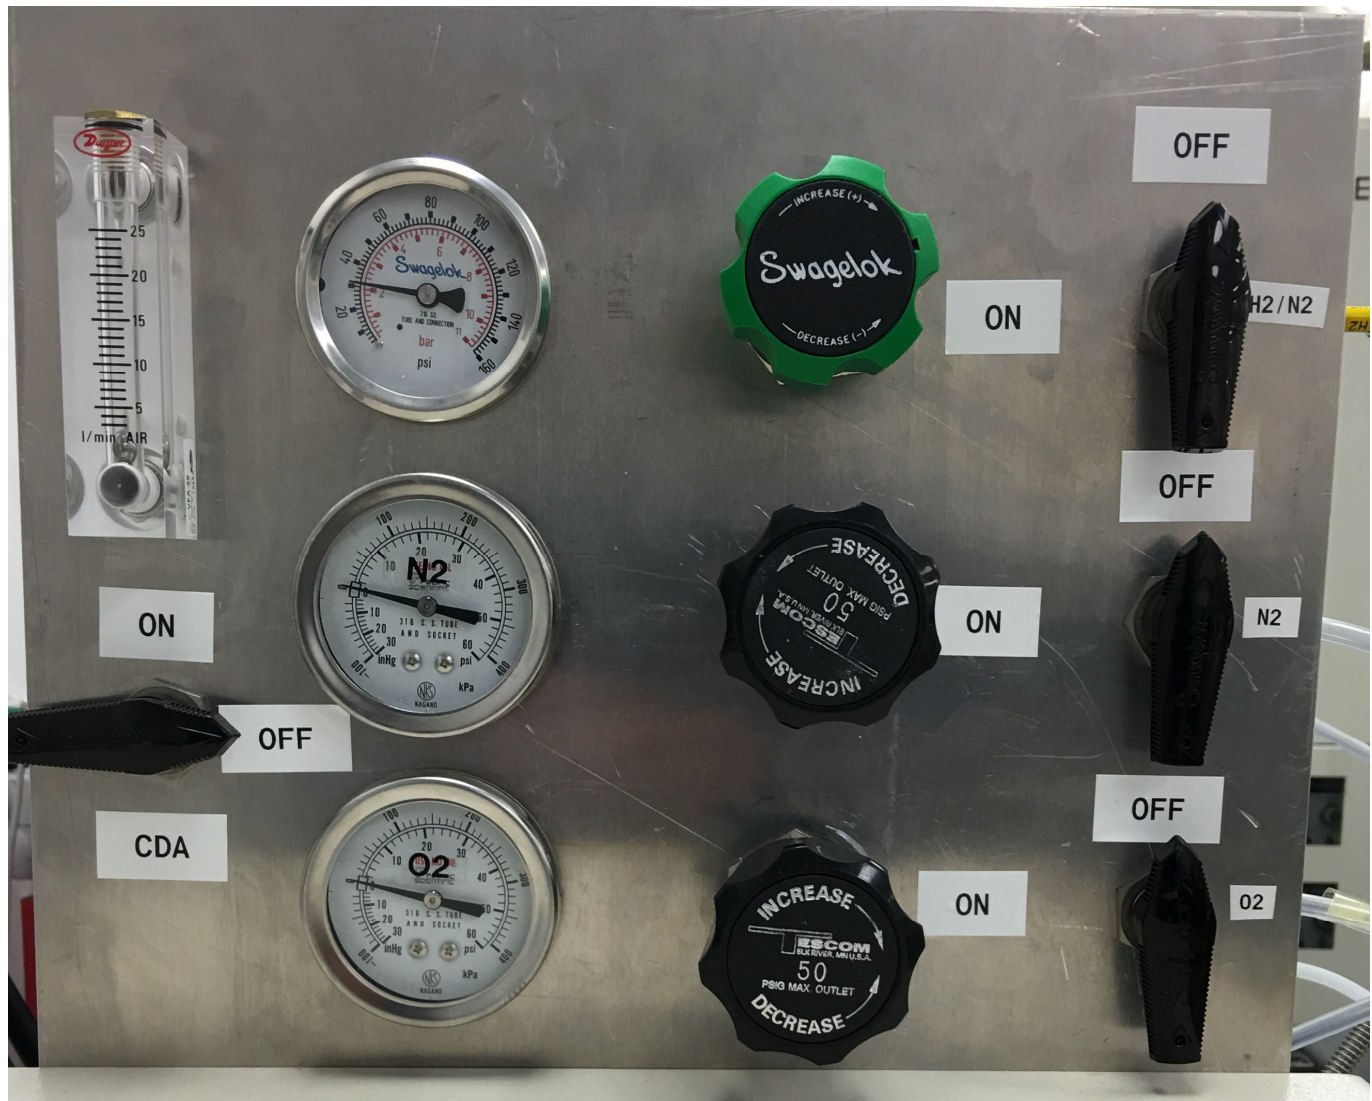

Fig. 1
- 4.1.1 The RTP-610A restricted use (no metals) chamber. The RTP-610B is a general use reaction chamber. Starting on the right as you look at the table there is the PC control system (P-CAT), RTP-610B chamber, RTP-610A chamber, and the Gas Handler. Underneath the table on the floor are two small chillers. The one on the right side is for the RTP-610B and the left one is for the RTP-610A. On top of the 610A chamber is the logic control switch box. On top of the gas handler is the process and facility gas manifolds. See Fig 1.
- 6.11** Turn on the compressed air. **See Figure 1**
- 6.12** Turn on the Nitrogen. **See Figure 1**
- 6.13** Turn on the Oxygen (if needed). **See Figure 1**
- 6.14** Turn on forming gas (if needed). **See Figure 1**
- 7.2.6 Turn off the COMPRESSED AIR. Figure 1**
- 7.2.7 Turn off the NITROGEN Figure 1**
- 7.2.8 Turn off the forming gas. Figure 1**
- 7.2.9 Turn off the Oxygen if used. Figure 1**